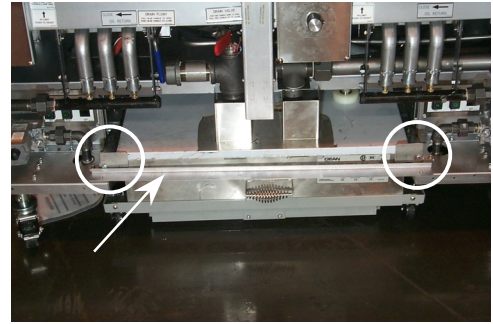

Figure 1. Shipping brace and retainer latches securing filter pan.
1. Prior to uncrating fryers: Open the doors of the filtration fryer cabinet. Remove the shipping brace (Fig. 1, arrow) from the filter pan and discard, unlatch the filter pan locks (Fig. 1, circles), disconnect the filter supply line and remove filter pan from the cabinet. Uncrate fryers and remove from pallets by lifting up and over the pallet supports. Avoid damage to the casters and caster support bases when lifting and placing fryers.